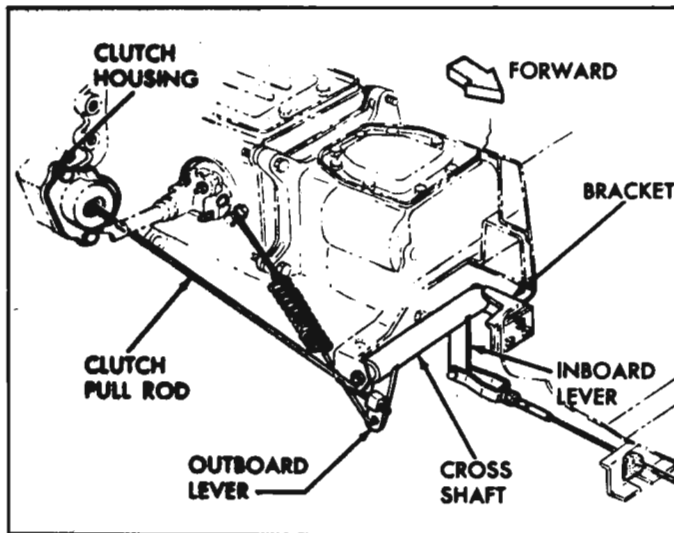

Fig. 6-5—Clutch Control Linkage Installation
- b. Disconnect clutch return spring, then disconnect clutch pull rod from outer lever (fig. 6-5).
- c. Remove nut securing clutch cross shaft (fig. 6-5) to engine front mount and loosen stud nut at inboard end, then push inboard end from slot in mount and remove cross shaft. Unfasten